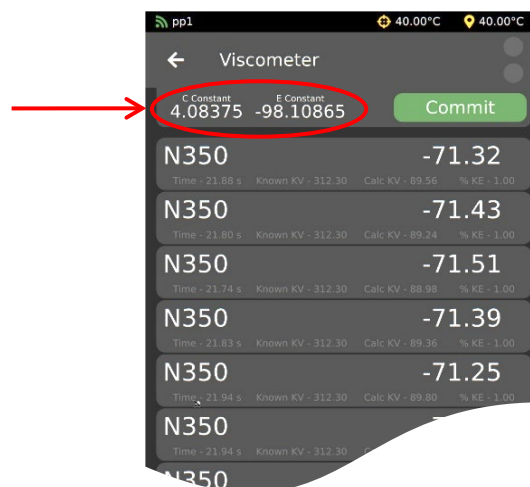

Figure 29: Note C and E Constants
3. Take note of the current C and E constants listed on screen. See Figure 29.